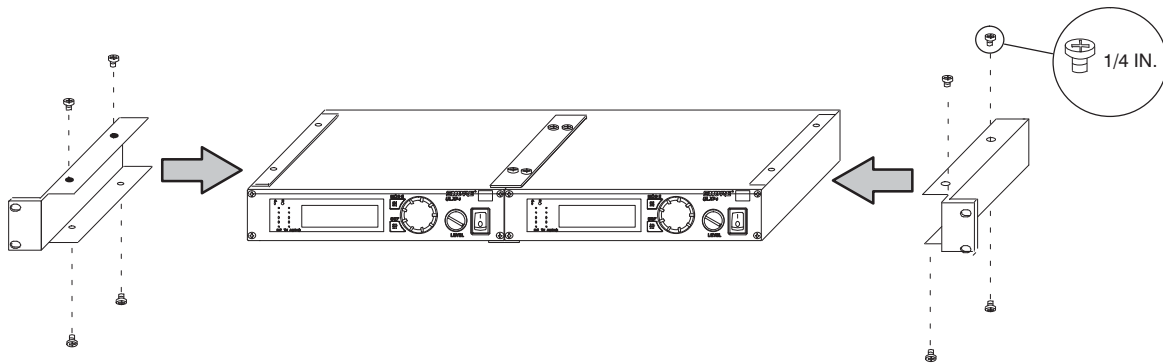

FIGURE 52
4. Position the rack-mount brackets over the holes in the sides of each receiver, as shown in Figure 52.